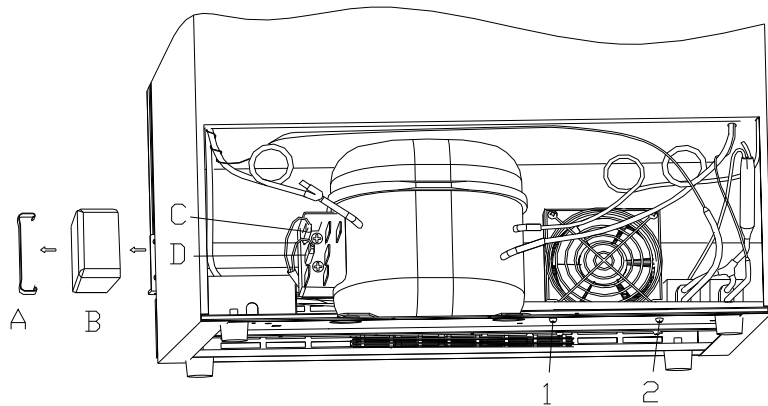
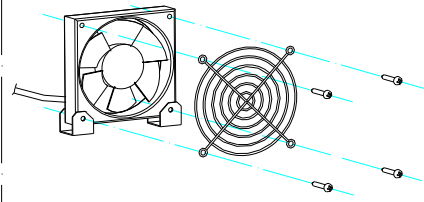

Fig. 7
Fig. 7.1
a. Remove snap rings (A), take out compressor electrical's cover (→9) (Fig.7)
b. Mark relevant note on connector (C & D), then unplug them (→9) (Fig.7)
Remove 2 screws (1 & 2), then replace the fan (→9) (Fig.7 & Fig.7.1)